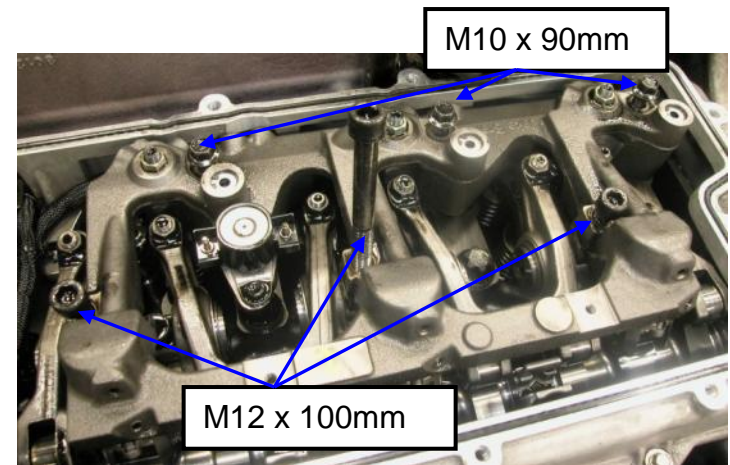

Fig 3
- Loosen the 6 engine brake hold-down cap screws from each housing, and remove them. (See Fig 3)